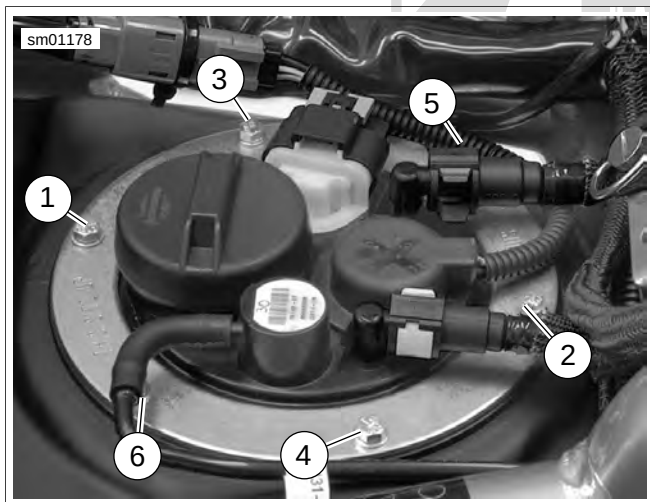

Figure 4-24. Torque Sequence
- See Figure 4-24. Install top plate retaining ring and fasteners. Tighten to 5-6 Nm (44-53 in-lbs).